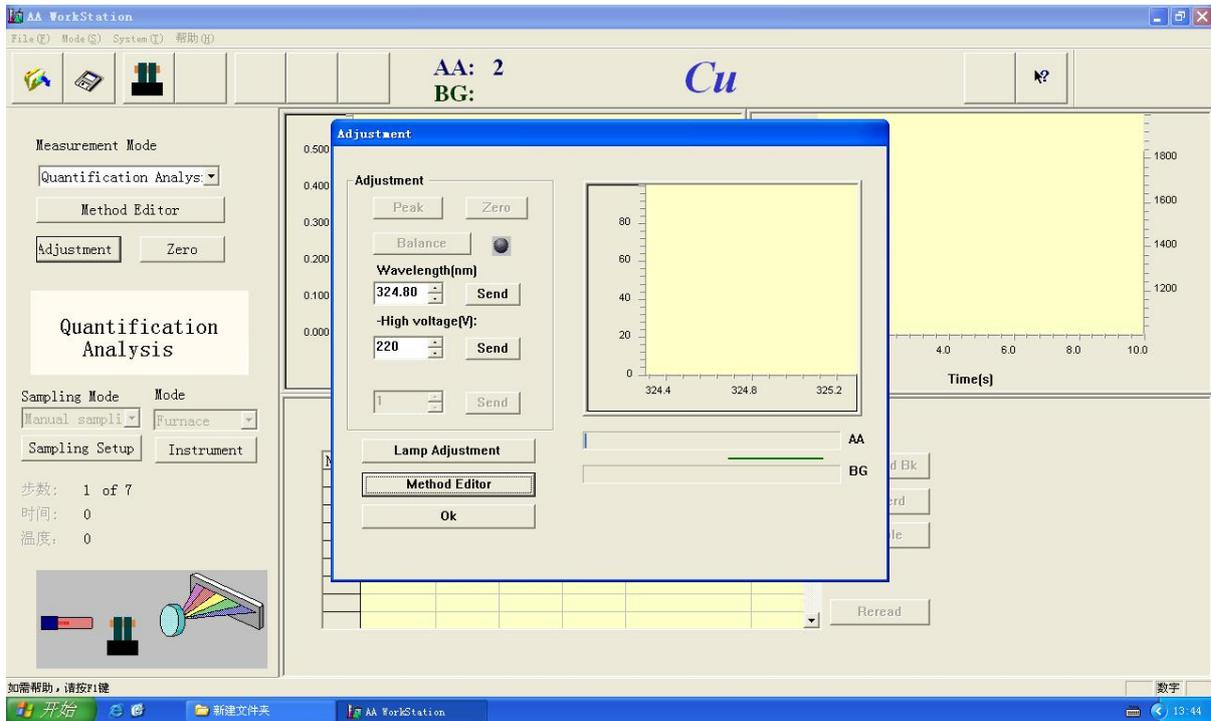

Figure 4-45
c. Press 【ok】 shows Figure 4-45, press "Peak" button, it will automatically find the center opposition of wavelength